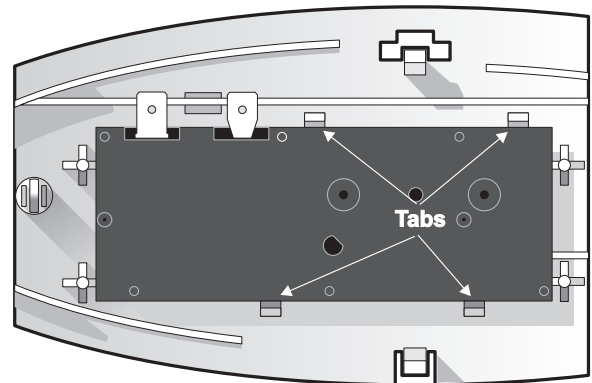

Figure 7c
4. Pull back on four tabs to release the humidistat. (See Figure 7c.) Pull back on top tabs first, tilting humidistat towards you, then pull back on bottom tabs and pull humidistat free from assembly.